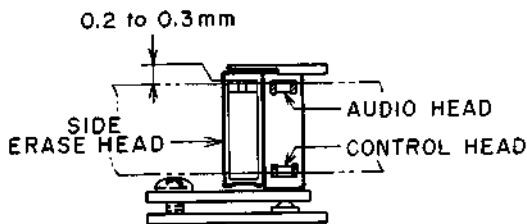

Fig. 6-7
- 1) Turn the NUT (a) for coarse AC BLOCK height adjustment as in Fig. 6-7, 8.